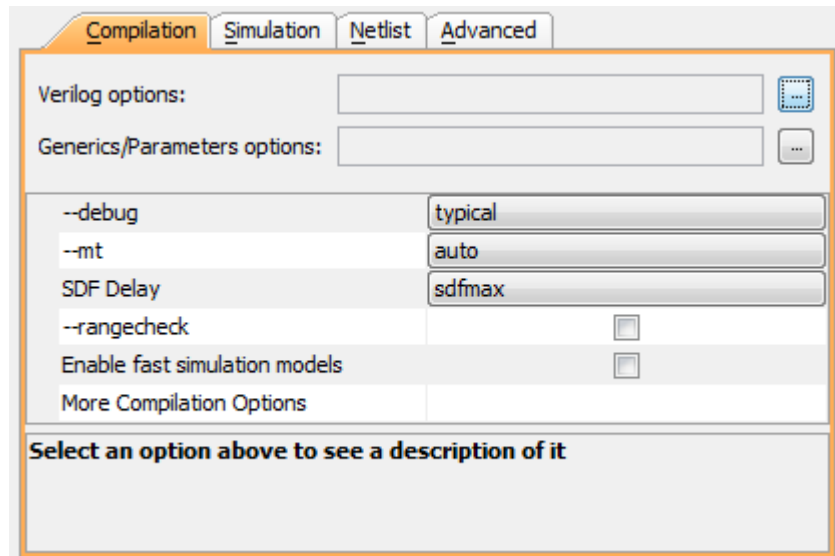

Figure 3-4: -mt Options in Simulation Settings: Compilation View
- `-mt`: Is set to `auto` by default. This option lets you specify the number of sub-compilation job to run in parallel. When you select the option, a drop-down menu displays the following selections as shown in Figure 3-4, page 46: `off`, `2`, `4`, `8`, `16`, and `32`.